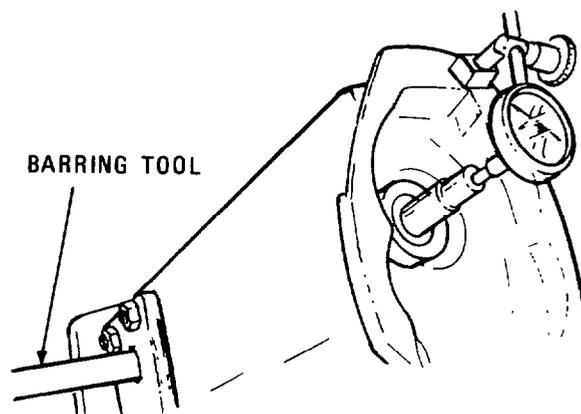

Fig. 109 — Checking Camshaft End Play
2. Install the dial indicator and barring tool onto the pump housing (item 1) as shown in fig. 109.